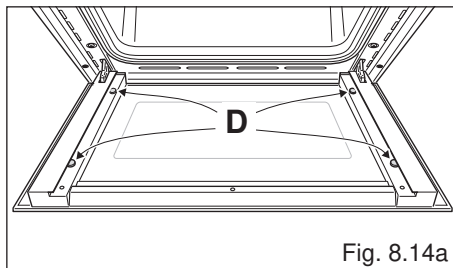

Fig. 8.14a
- Check that the four rubber pads are in place (“D” in fig. 8.14a).